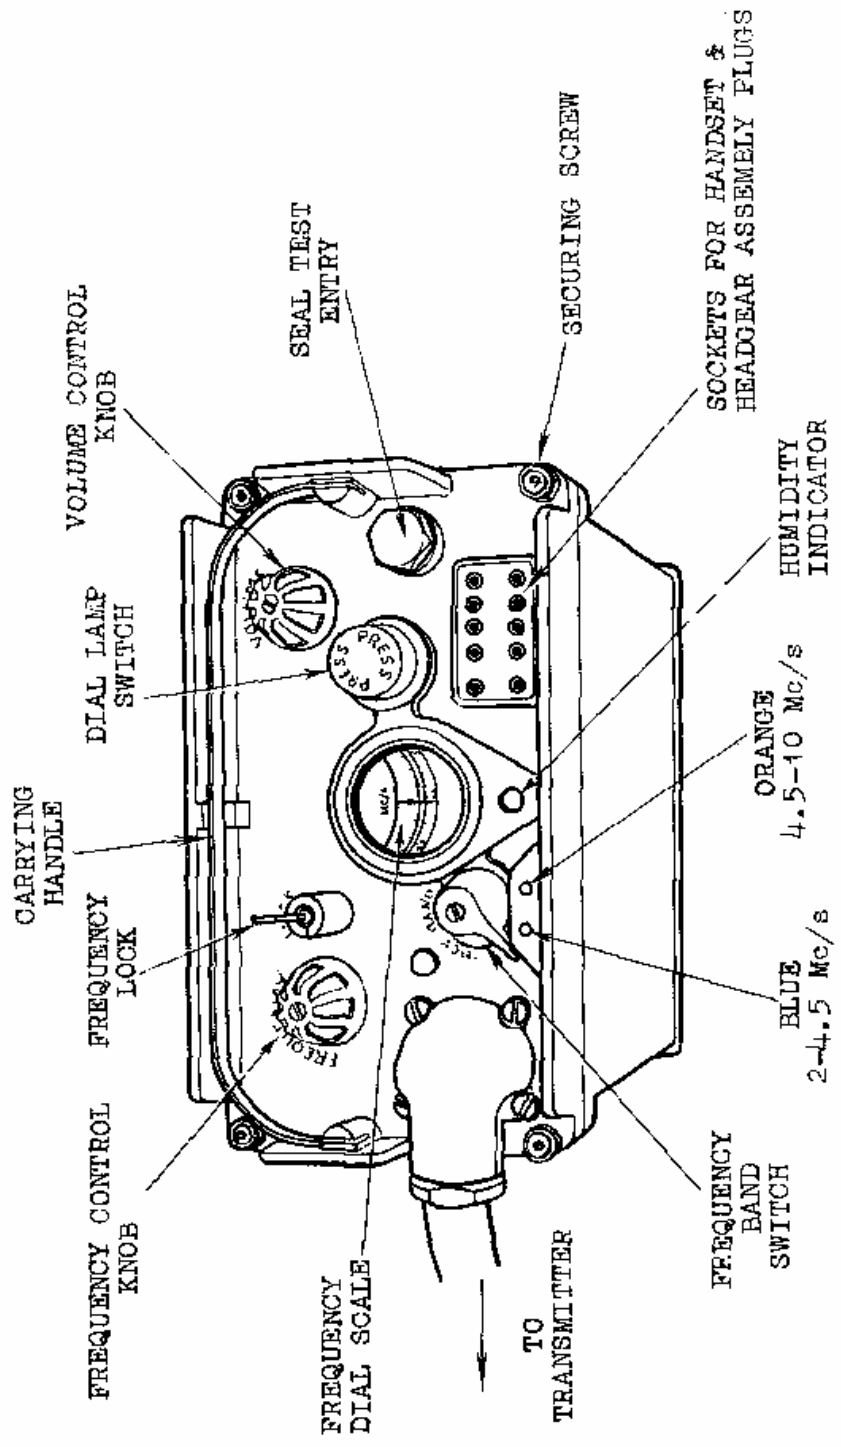

FIG. 4 - RECEIVER, A510 - CONTROLS
Receiver. (Fig.4)
17. Receiver controls, as marked on the panel (shown here in inverted commas and capitals), and other items on the receiver are explained below, and illustrated in Fig.4.